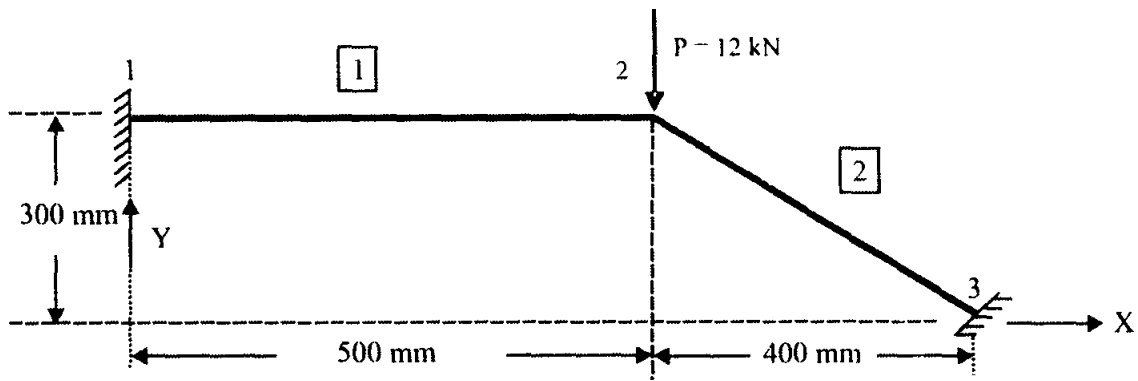

Figure 2
- Determine the nodal displacements, element stresses and support reactions in the truss structure shown in Figure 2, assuming points 1 and 3 are fixed. Use $E = 70 GPa$ and $A = 200mm^2$ [BL: Apply| CO: 2|Marks: 7]